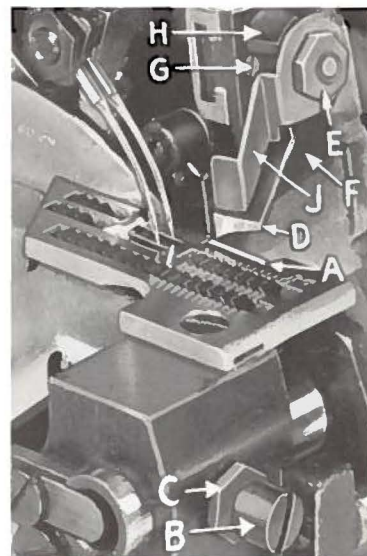

Fig. 12
Replace lower knife holder assembly. Lower knife (A, Fig. 12) should be set with cutting edge flush with throat plate surface. Adjustments are made with hexagonal head screw which holds lower knife. Lower knife is spring pressed against upper knife, so no lateral adjustment is necessary when width of trim is changed.
Replace upper knife assembly. Clamp upper knife (D, Fig. 12) in position, setting nut (E) to hold clamp (F) in its most clockwise position against upper knife. Upper knife chain guard (J) should be positioned so that the guarding section is approximately 1/64 inch behind the cutting edge and in contact with the top surface of the upper knife.